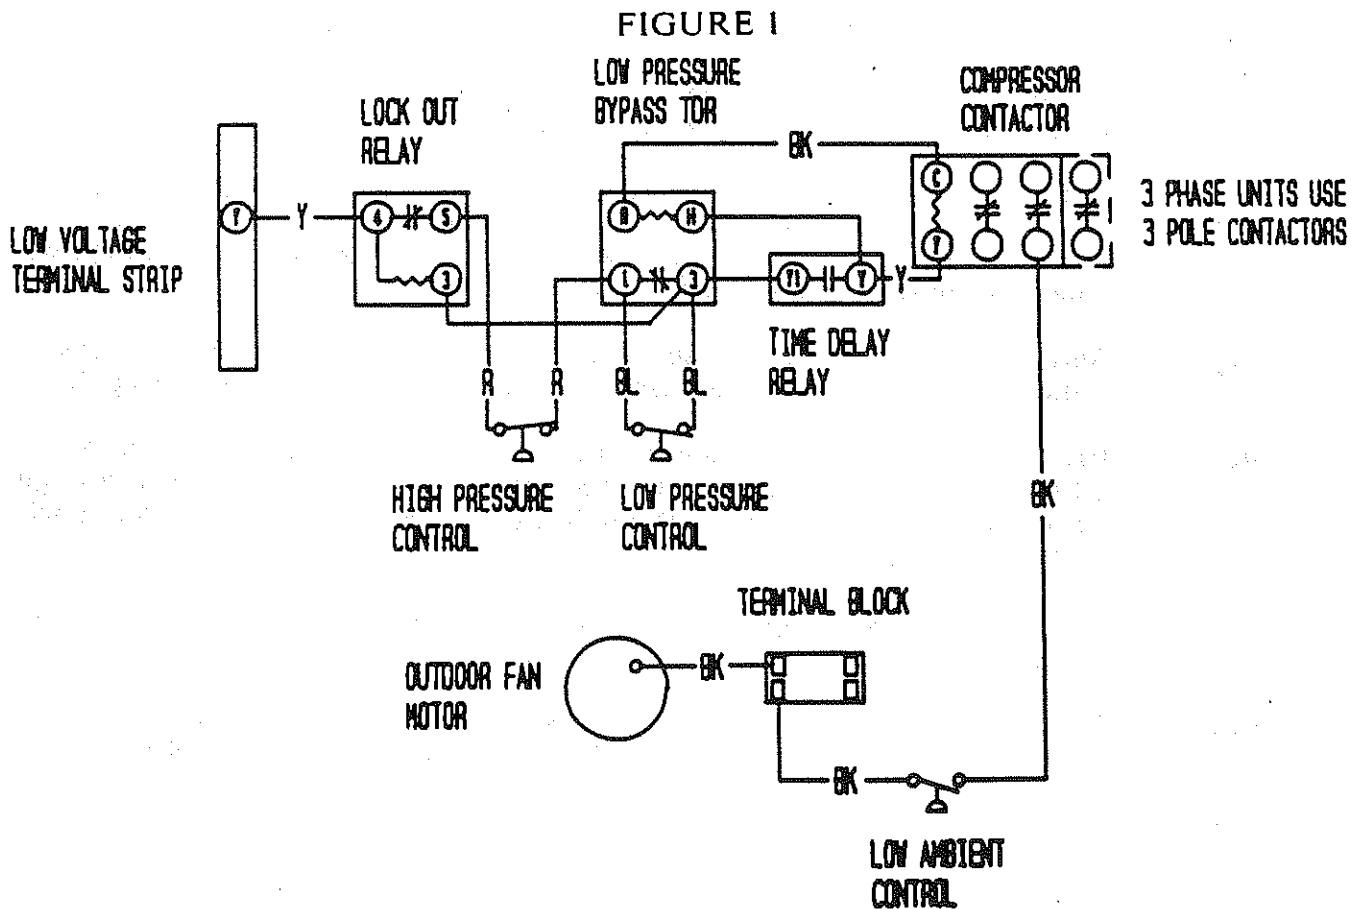

FIGURE 2
- Step 8. Disconnect black high voltage outdoor motor lead from compressor contactor and reconnect to terminal block. Route wires through wire holder as shown in Figure 2, Step 8.
- Step 9. Route low ambient control wires up through the bushing in the bottom of the control panel. Replace sealing compound after routing wires through the bushing. Route the wires through the wire holders in the control panel as shown in Figure 2. Connect the low ambient control wires between the terminal block and T2 of the compressor contactor. See Figure 2, Step 9.